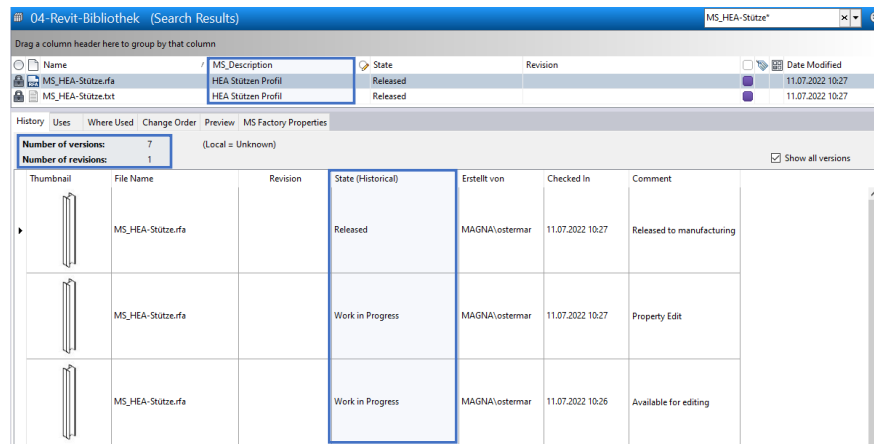

FIGURE 3: VAULT PROFESSIONAL MANAGED VERSIONS, LIFECYCLE STATES AND PROPERTIES FOR REVIT DATA
- Manage versions, lifecycle state and properties of your entire Revit projects and families (see Figure 3)